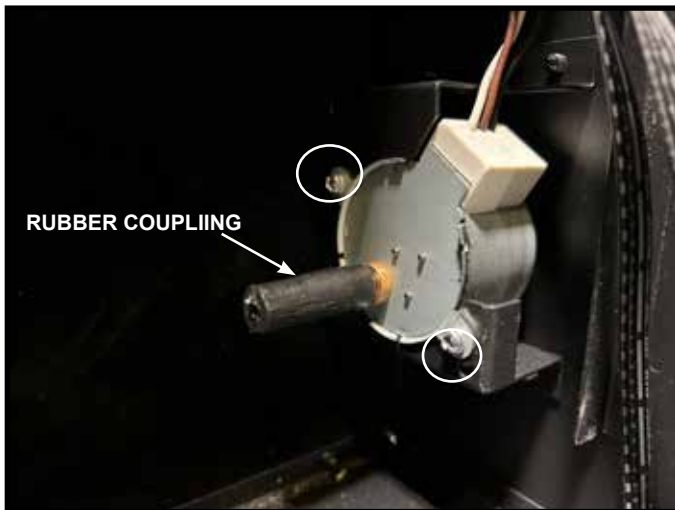

Figure 17 Rubber Coupling and Motor Removal
2. Remove rubber coupling from rotisserie motor and remove Phillips screws securing the rotisserie motor to the bracket. See Figure 17.